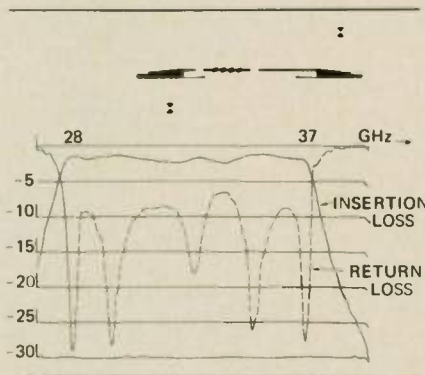

Fig. 5 Wideband microstrip filter with uncoupled end sections.
suspended substrate), and losses, obliterate the design ripple. Figure 5 shows the measured results of a wideband microstrip filter with uncoupled end sections.
The two-stage amplifier was attached directly to the 18°K station of the refrigerator as shown in Figure 5. A special low-loss 4-inch long input air-line was fabricated to bring the signal through the dewar wall to the 18°K input of the amplifier. The 1/4 inch diameter air-line was constructed from thin wall (.006") stainless steel; the inner wall of the outer and the outer wall of the inner conductors were copper plated and gold flashed to reduce microwave losses. The estimated noise contribution from this line is 1°-2°K in the cold condition, and its contribution is included in the overall measured amplifier temperature.
Fig. 5 Photograph showing four two-stage amplifiers attached to the 15K station of the CTI Model 21 refrigerator, at left. The outer dewar and the heat shield (attached to the 77°K station) have been removed to show assembly. The low-loss input lines (4) are gold-plated thin-wall stainless steel. They pass through the dewar wall on Type-N connectors to SMA at the amplifier input and are heat sunk to the 77°K station at mid-point. The output lines are .085 stainless steel semi-rigid coax.